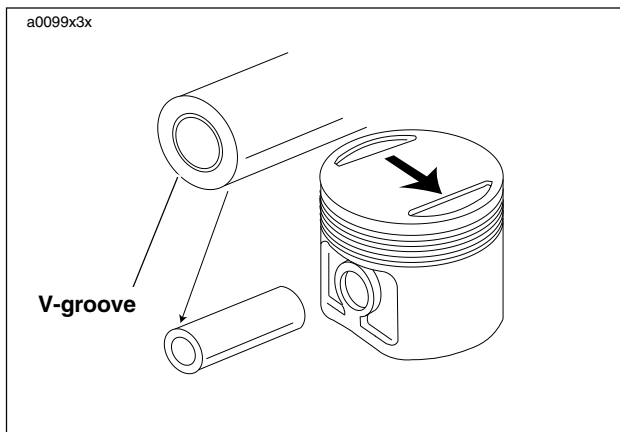

Figure 3-68. Piston Pin and Piston Identification
9. See Figure 3-68. The arrow at the top of pistons must always point toward the front of the engine.
10. See Figure 3-68. Spread piston rings outward until they clear grooves in piston and lift off.